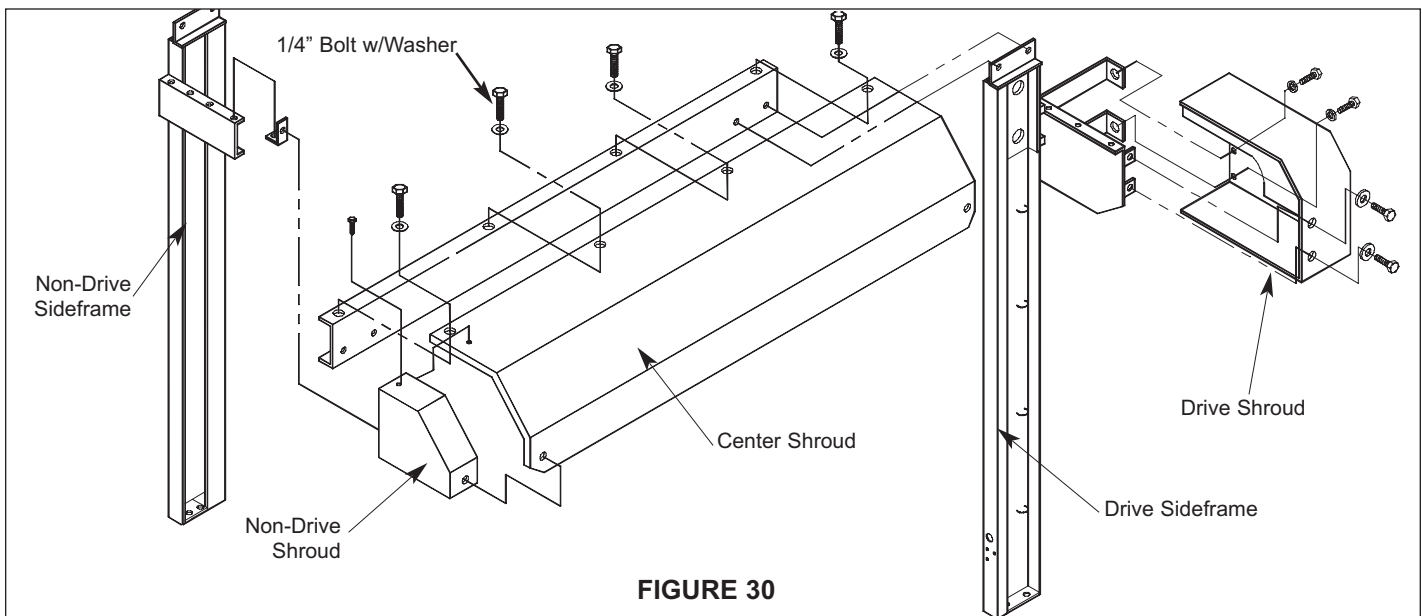

FIGURE 30
2. Position center shroud as shown and fasten with 1/4" bolts and washers, Figure 30.